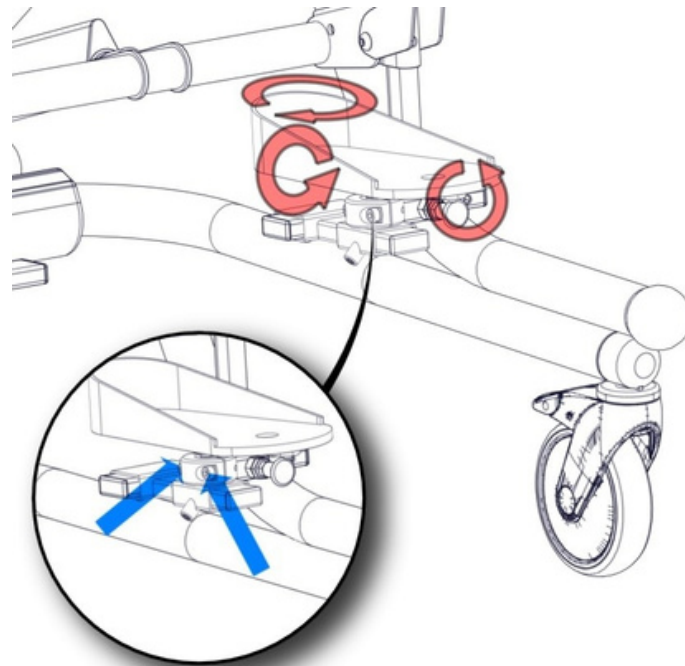

Fig. 27
The 3D Feet System enables effortless regulation of the feet platforms in every direction needed. To change the angle of the platform, the two screws marked by blue pointers should be loosened, the way shown on Fig. 27, with the help of the allen key 5mm. After adjusting the platform to the required position, the screws should be tightened.